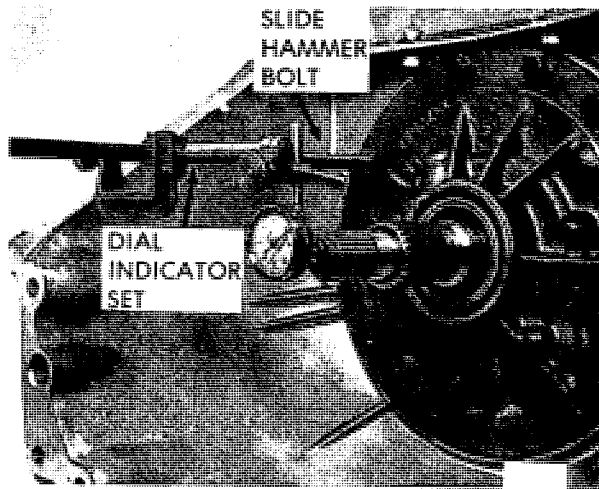

Figure 7C-162
5. Checking direct clutch to oil pump clearance, attach slide hammer bolt to threaded hole in oil pump. See Figure 7C-162. With flat of hand on end of input shaft move shaft rearward. Install Dial Indicator Set J-8001 on rod and "O" dial indicator on end of input shaft. Push on end of output shaft to move shaft forward, the reading obtained should be between .030 and .079. If the reading is incorrect remove pump assembly and install zero, one, or two .017 shims to obtain correct reading. See Figure 7C-159.